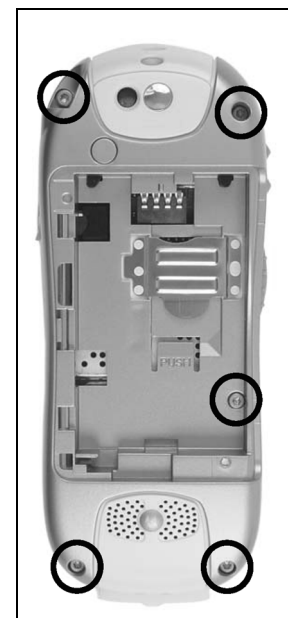

Figure 7-9.
2. Place back housing onto front housing, check for zero gap, insert remaining five screws. See Figure 7-9.